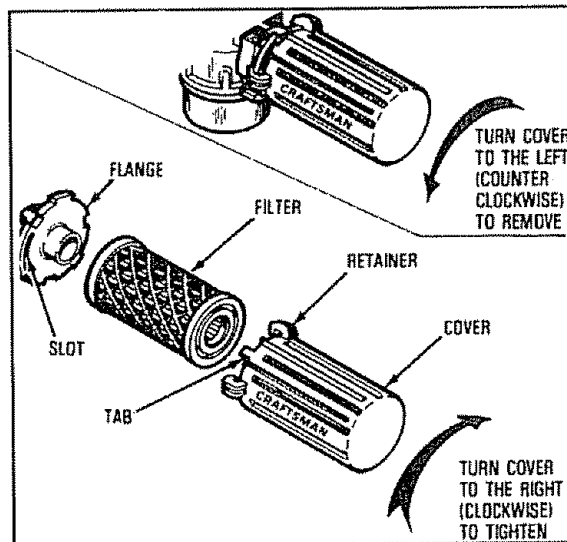

Figure 28: Air cleaner assembly.
The engine is equipped with a paper element air filter. See Figure 28.
2. Turn cover to the left (counterclockwise) and remove cover and filter from flange. Discard filter. See Figure 28.